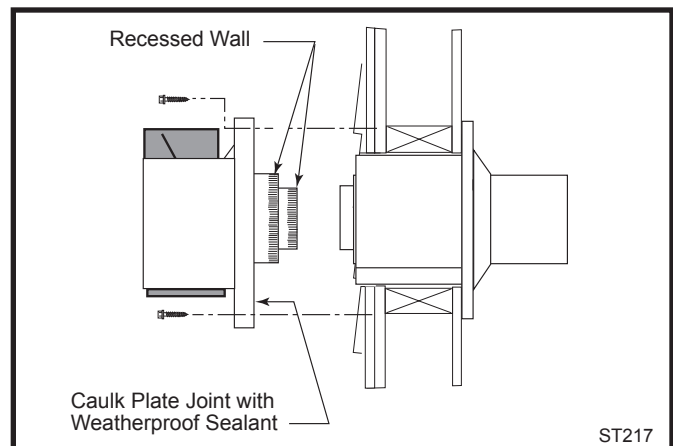

Fig. 27 Install the vent terminal.
10. For both CFM and DuraVent Systems: Install the vent terminal. (Fig. 27) Apply high temperature sealant one inch from the ends of the inner and outer collars. Guide the inner and outer vent termination collars into the adjacent pipes. Double check that the vent pipes overlap the collars by 2". Fasten the termination to the wall with the screws provided, and caulk the joint with weatherproof sealant.